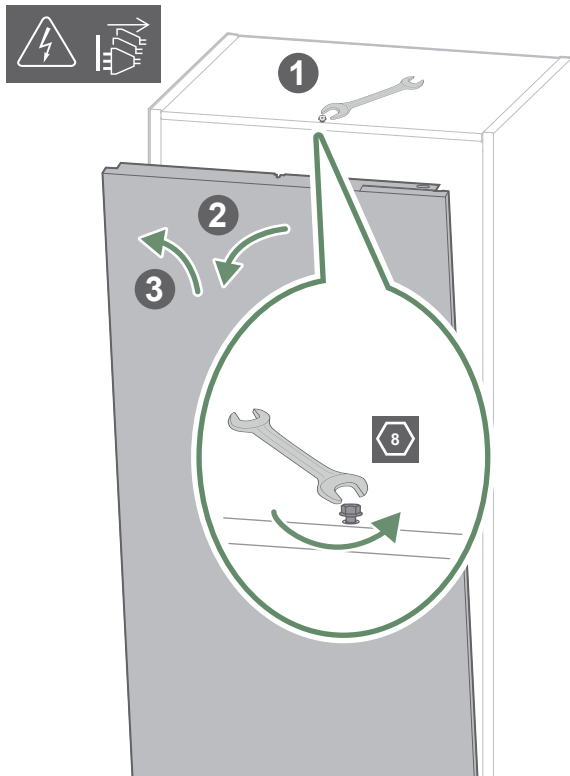

fig. 18 - Opening the front panel
- When operating, water may be discharged from the outdoor unit. Do not install the appliance on a terrace, but choose a well-drained spot instead (bed of gravel or sand). If the appliance is installed in a region where the temperature can stay below 0°C for a long period, check whether the presence of ice may represent any danger. It is also possible to connect a drain pipe to the condensate drain tray (optional) (fig. 18 page 17).